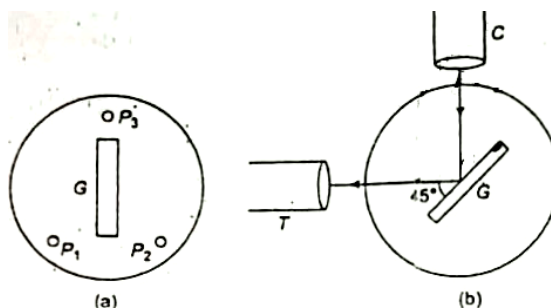

Fig. 3.1
1. First set the telescope (T) to receive direct light from the collimator (C). Bring the telescope cross-wire at the direct image of the slit and take the reading of one vernier only.
3. Place the grating (G) mounted in its holder on the prism table vertical and in such a way these:
- ii) The plane of the grating passes through that diameter of the prism table which is normal line joining the leveling screws P1 and P2 the table Fig. 3.1(a).
4. Turn the prism table until an image of the slit is formed on the cross wire of the telescope reflection from the unruled surface of the grating as shown Fig. 3.1(b).